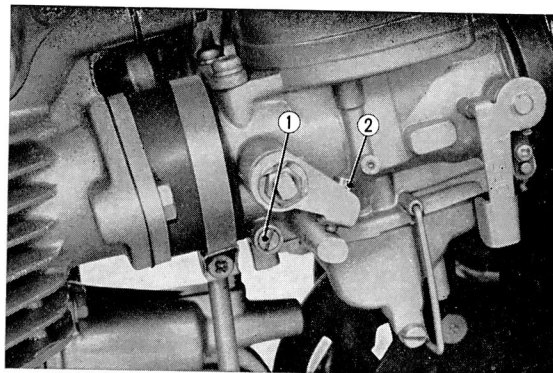

Fig. 6.27 Idling adjuster
(1) Idle adjustment
a. Adjust the stop screw (2) so that the exhaust back pressure is the same for both the right and left side. If the engine speed does not decrease when the stop screw is screwed out, loosen the lock nut and screw in the cable adjuster by about one turn. The engine rpm at this point is between 1,000~1,200 rpm.
b. Starting with either the right or left carburetor, manipulate the pilot screw (1) and find the point of highest rpm; the same should be done with the opposite carburetor. Turning the pilot screw in will give a high fuel air mixture, turning the screw out will give a lean mixture. The pilot screw (1) should be set at a point  $1 \sim 1\frac{1}{4}$  of a turn out from full close.
d. Repeat the procedures from paragraph (a) through (c) several times so that the pilot screw is set to provide the specified rpm and that the same exhaust back pressure is obtained at both the right and left sides. (Fig. 6.27)
(2) Synchronizing the throttle valve